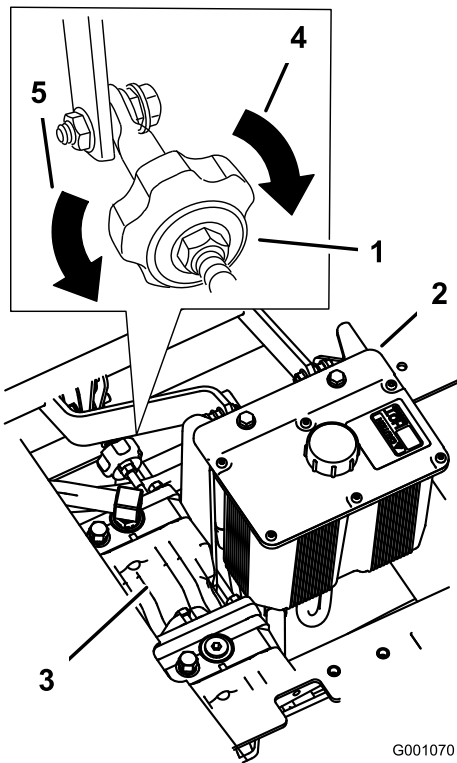

Figure 60
4. To make the machine go right, turn the knob towards the right side of the machine. Refer to Figure 60.
5. To make the machine go left, turn the knob towards the left side of the machine. Refer to Figure 60.